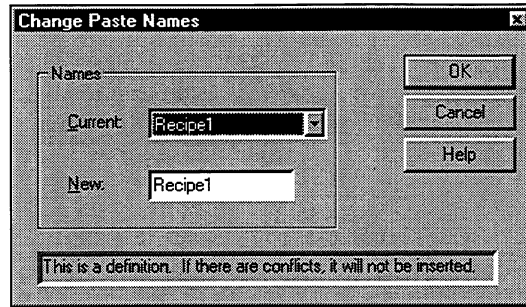

Figure 9-7. Change Paste Names Dialog Box
4. In the Application Navigator, select the Paste command on the Edit menu. The Change Paste Names dialog box appears, as shown in Figure 9-7.